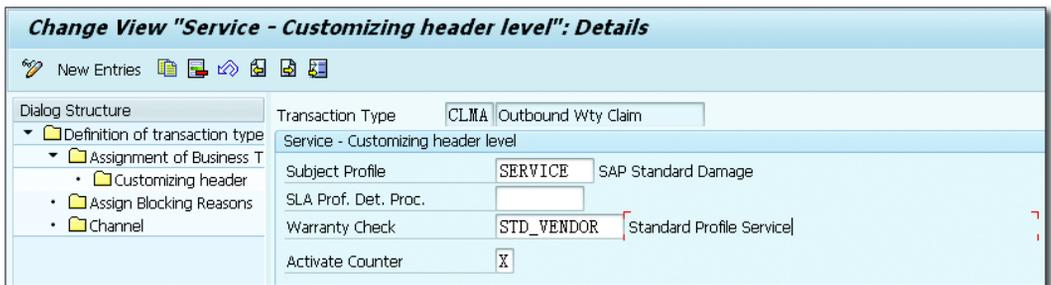

Figure 7.35 Service Process Header Customizing
11. Within the service process details, you assign the warranty check profile, as shown in Figure 7.35. In this example, it's a vendor warranty profile (i.e., STD_VENDOR). You can assign the SUBJECT PROFILE and SLA PROF. DET. PROC. fields as well.